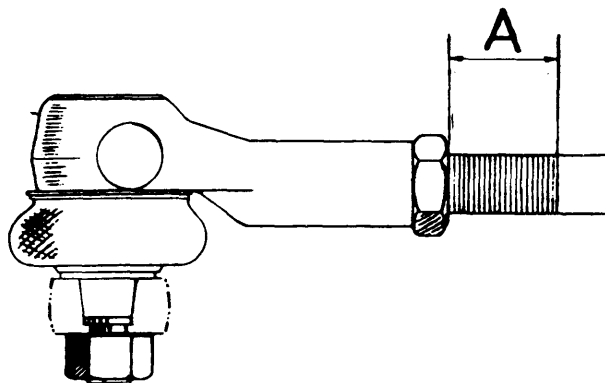

Fig. 1 View Showing Where to Measure Tie Rod Length
**NOTE** — After adjustment of toe-in, measurement "A" (Fig. 1) of tie rod must not exceed 1.0" (25 mm). For tie rods opposite to each other, the difference between measurement "A" must not exceed .08" (2 mm).